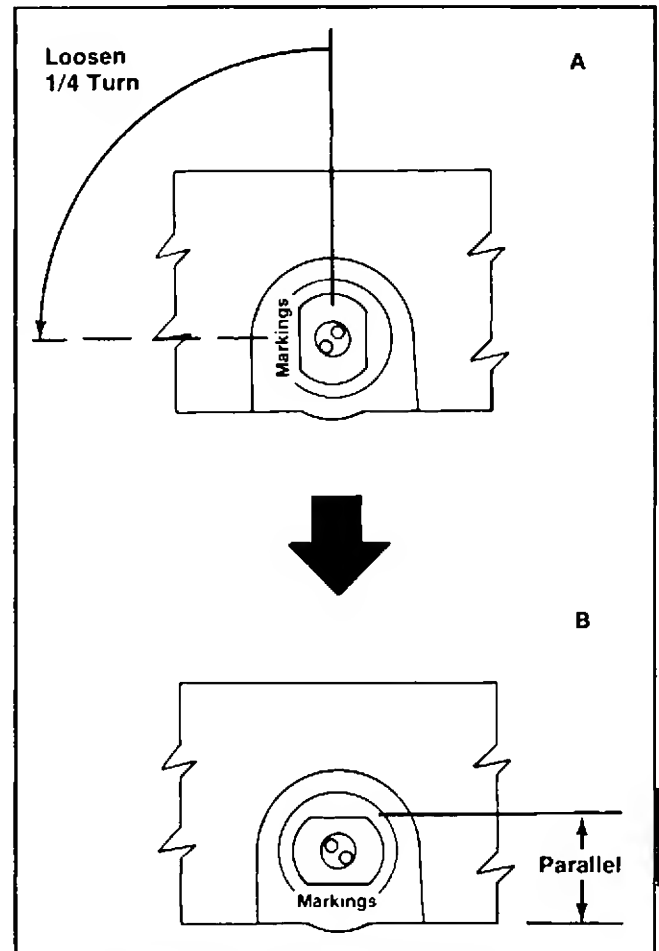

Figure 8-12. Float Switch Removal.
- Turn the switch clockwise until the flat surface is in a vertical position as shown in Figure 8-12. (N.C./N.O. markings on left.) This will allow the float to return against the switch body.
- Turn the switch counterclockwise 1/4 TURN. STOP turning switch when flat surface is in a horizontal position. (Flat surface parallel with base of oil pan and N.C./N.O. markings down. Refer to Figure 8-12.